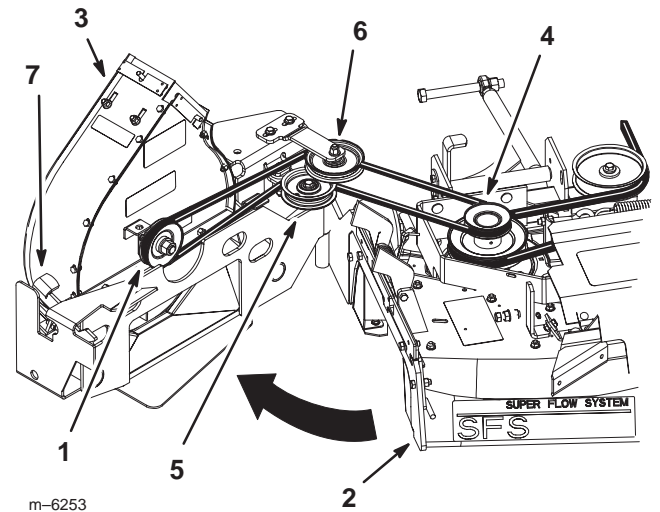

Figure 13
3. Open the blower assembly (Fig. 13).
4. Push down on the front latch (colored red) and open the blower assembly (Fig. 13).
6. Route the bagger belt around the **top pulley of the mower pulley assembly** (Fig. 13).
7. Feed the belt between the idler pulleys (Fig. 13).
8. Route the bagger belt around the **spring-loaded idler pulley** (Fig. 13). The backside of belt will be touching the pulley.
9. Route the bagger belt around the **fixed idler pulley** (Fig. 13).
10. Route the bagger belt around the **blower pulley** (Fig. 13).